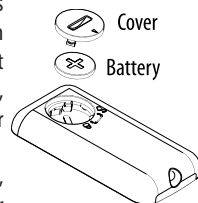

Fig. 1
(see fig. 1)
battery paying attention to respect the right polarity as shown in figure 1.
- To clean the filter, remove the rear grille by pulling it outwards (fig. 1). Remove the dust filter that retains impurities in the air drawn in from the room, blow on it lightly then put it back in the appliance.